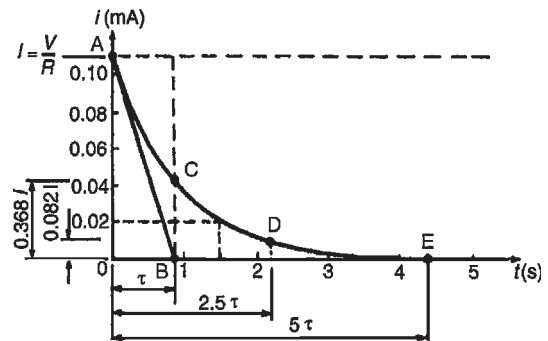

Figure 20.6
- (c) The current/time characteristic is constructed in the same way as the capacitor voltage/time characteristic, shown in part (a), and is as shown in Fig. 20.6. The values are: